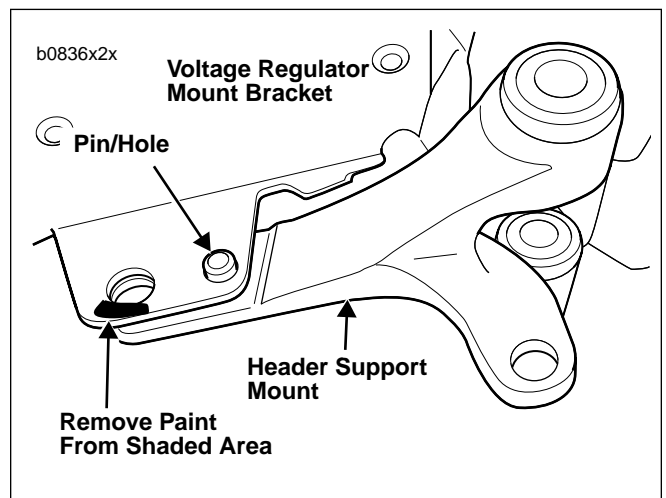

Figure 4. Voltage Regulator Bracket
- a. See Figure 4. Scrape paint from inside corner of voltage regulator bracket on crankcase side.
- b. See Figure 4. Position **new** header support so pin engages hole in new voltage regulator bracket.
- e. See Figure 4. Check voltage regulator bracket to verify that pin remains engaged in hole and that bracket does not pivot front to rear.